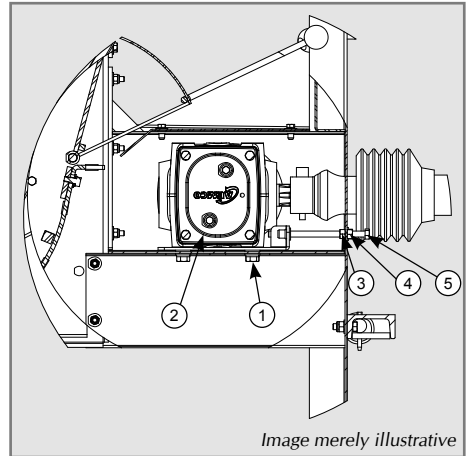

Fig. 6
1. Loosen the screws (1) that fix the transmission box (2), just to loosen the box; you don't need to remove these screws;
2. Loosen the nuts (3) and (4);
3. Tighten the screw (5) until the clearance in the belts is  $\pm 10$  mm, as shown in Figure 6;
4. After adjusted the clearance, tighten the nuts (3) and (4).